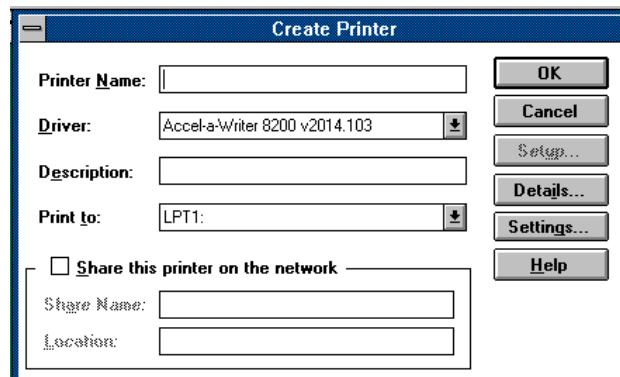

Figure 14. Create a Printer Dialogue Box
3. Select “Create a Printer” from the “Printer” menu to display the dialogue box in Figure 14.